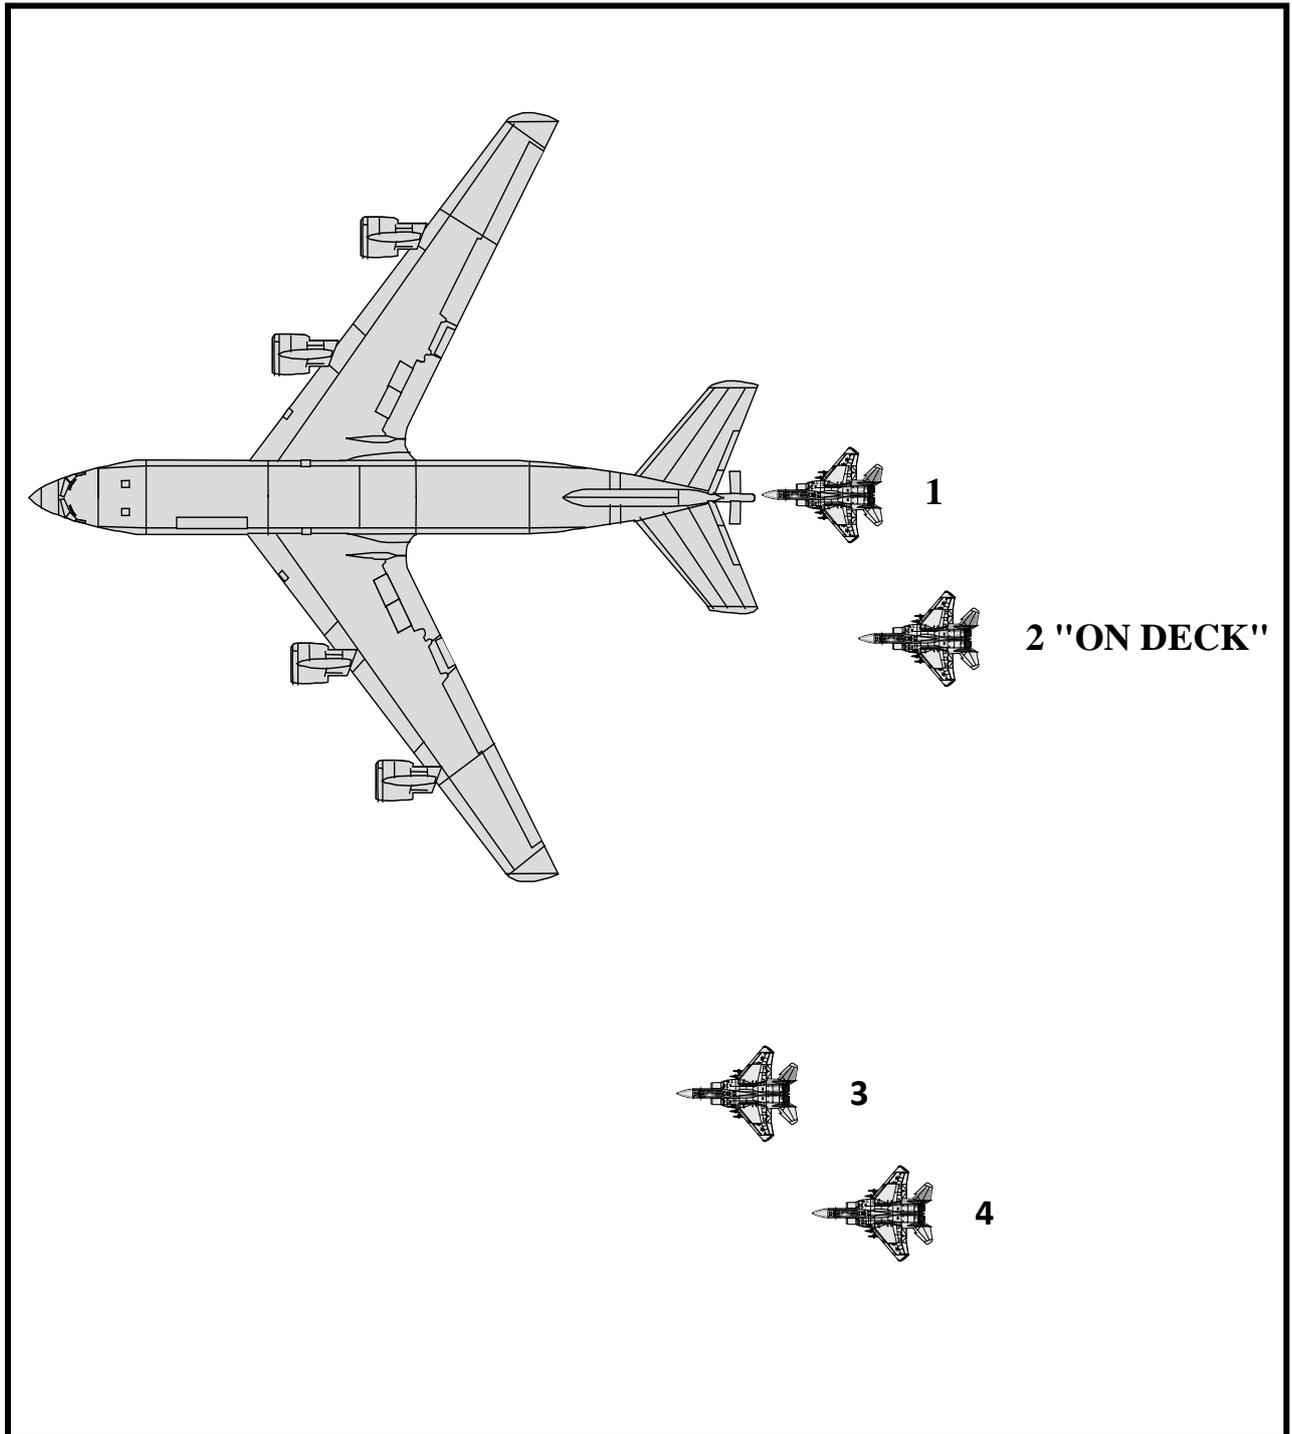

Figure 2M-1. Quickflow Air Refuelling
2.M.1. QUICK FLOW PROCEDURE (QF) (BOOM ONLY)
- b. **QF Procedures.** Normally, the receiver flight will join on the tanker with the flight lead moving to the astern position. Remaining aircraft will proceed to the Echelon Left, visual position. Once the flight lead commences refuelling, the second aircraft in the air refuelling sequence will move to the "On-Deck Position" (Figure 2M-1). The "On-Deck Position" is echelon formation on the receiver in the contact position. When the flight lead completes refuelling, that aircraft moves to an Echelon Right position on the tanker's right wing. The second receiver moves from the "On-Deck Position" to the astern and contact position. If three or more receivers are part of the fighter formation, the third receiver moves to the "On Deck" position. The left to right flow continues until all fighters have refuelled. When AAR is complete, the aircraft will depart the tanker or remain in echelon formation on the tanker's right wing for additional AAR. If further refuelling is required, reverse the above procedures with a right to left flow. The second receiver can assume a right "On Deck Position" and Quick Flow will continue in order. If additional receivers arrive prior to the first flights completion, they will remain in trail position until cleared by the tanker or observe the first flight departing the tanker.